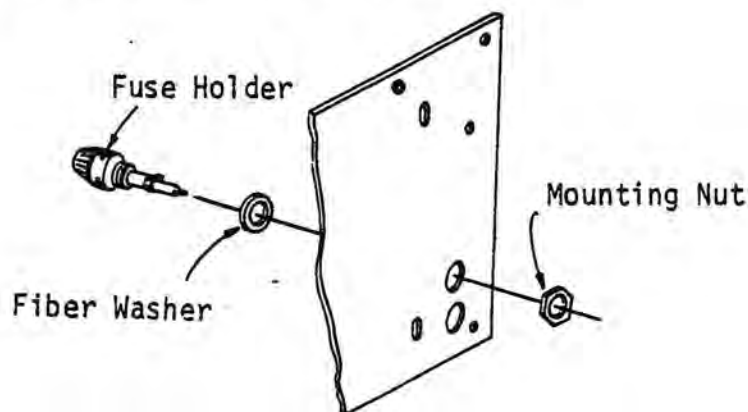

Figure 5-55 Fuse Holder Installation
The following instructions describe the installation of the mounting and wiring of the back panel bridge rectifier. Figure 5-55 further defines the installation. Do not use excessive force when screwing down the bridge rectifier.
1. Secure the fuse holder (as illustrated in Figure 5-55.) with the rubber washer and nut.